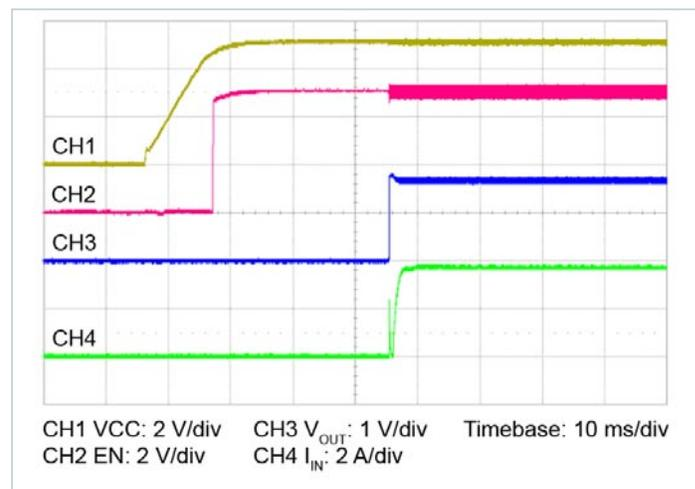

Figure 13 — Start up from application of V_{CC} ; V_{IN} pre-applied $C_{OUT} = 3000 \mu\text{F}$
- **Start up operation (VCC applied after Input voltage. *It is not recommended to start up the VTM in this order*):** In this case the VTM module output will begin to rise upon the application of the VCC voltage (See Figure 13). However, the Adaptive Soft Start Circuit is disabled internal to VTM and start-up current will be unlimited. When VCC applied, EN and CM signal appear after VCC crosses its under-voltage point. TM and output voltage signal appear after delay of T_{ON} time with respect to EN signal. In this mode of start-up, input voltage is applied prior to VCC. So input capacitance is already charged prior to VCC applied. When VCC applied, VTM powertrain generates the output voltage and charges the output capacitance. In this mode of operation inrush is due to the output capacitance. The following diagram shows the power up sequence for such mode of operation. This product requires an external soft start circuit to limit inrush current in this mode of operation. This product does not support the auto-restart feature in fault conditions.